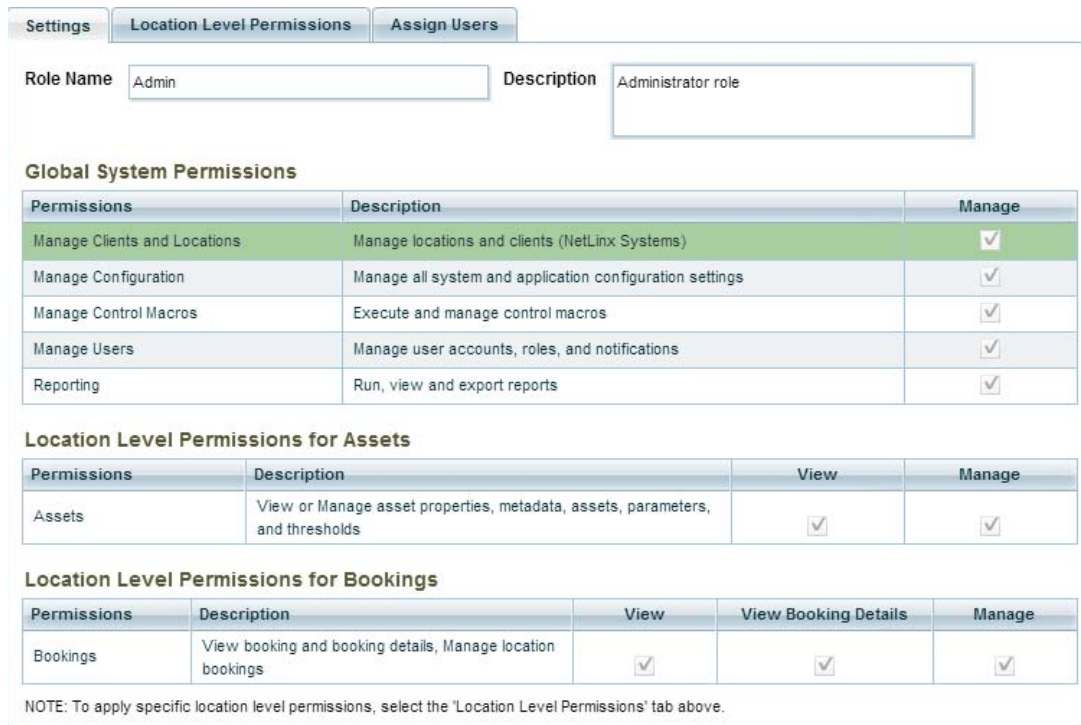

FIG. 319 Role Properties Window - Settings tab
The options in the **Settings** tab of the *Role Properties* window allow you to define, edit and view basic information for a selected Role. Use this tab to select Global as well as Location-level permissions to include in a Role (FIG. 319).
RMS includes a set of *Global System Permissions* that grant system-wide access to certain features and functions in the RMS application. The Global System Permissions options presented in the **Settings** tab of the *Role Properties* window (see FIG. 319 on page 195) are described below:
1. In the *Roles* window of the *Role Management* page (FIG. 318 on page 195), click the **Add Role** button. This action opens a new set of tabs in the *Role Properties* window (the initial view is the **Settings** tab (FIG. 319 on page 195)).